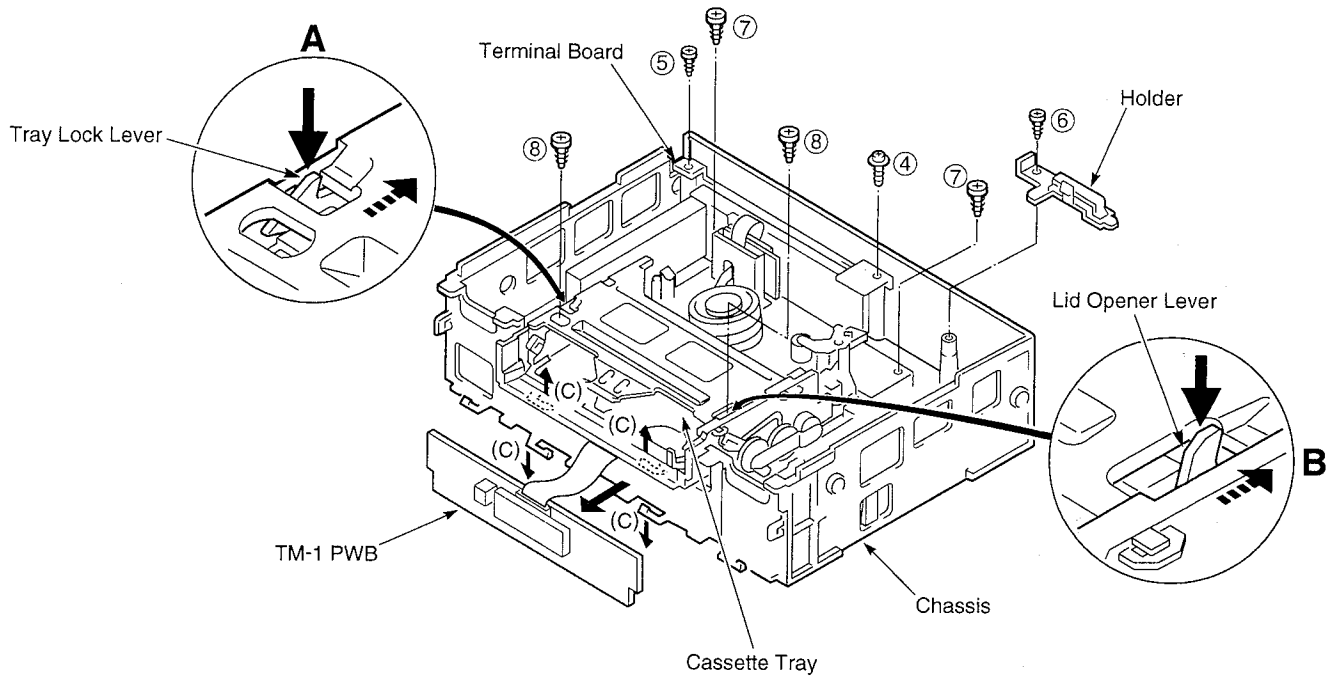

Fig. 1-1-2
REMOVING THE MECHANISM MAIN UNIT AND THE CP-1 PWB ASSEMBLY (Fig. 1-1-2 and 1-1-3)
1. Spread out the lock clamps (C) in the arrow direction slightly and remove the TM-1 PWB as shown in Fig. 1-1-2.
2. Remove the screw ④ at the chassis.
3. Remove the screw ⑤ in the chassis, the screw ⑥, and the holder in this order.
4. Remove the two screws ⑦ and two screws ⑧ of the mechanism unit. The two screws ⑧ of the cassette tray can be removed easily by pushing the tray lock lever in the arrow direction to remove the lock as shown in the enlarge view A and by pushing the lid opener lever in the arrow direction to remove the lock as shown in the enlarge view B.